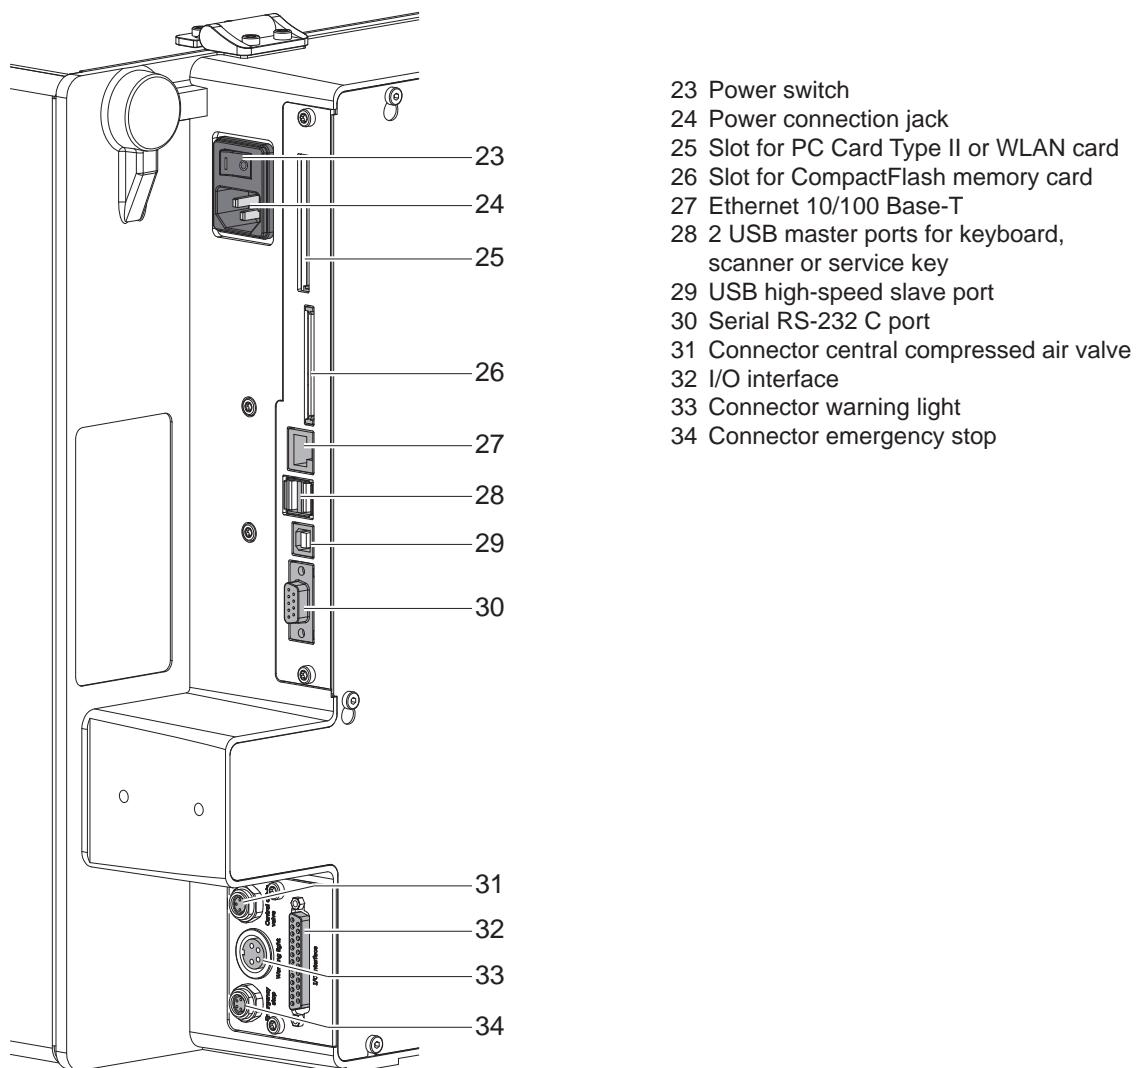

Fig. 6 Connections
The standard available interfaces and connectors are shown in Fig. 6 on page 8.
2. Plug the power cable into the power connection socket (24 / Fig. 6).
- ▶ Switch the printer on at the power switch (23 / Fig. 6).